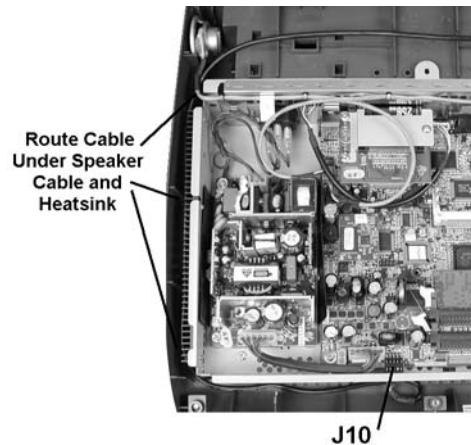

Figure 4: Routing the Interface Cable
3. Route the interface cable under the speaker cable and along the left side and under the cage heat sink to the front of the unit. Figure 4.
4. Attach the interface cable through the cage to the 2x10 USB connector, J10. Figure 4.